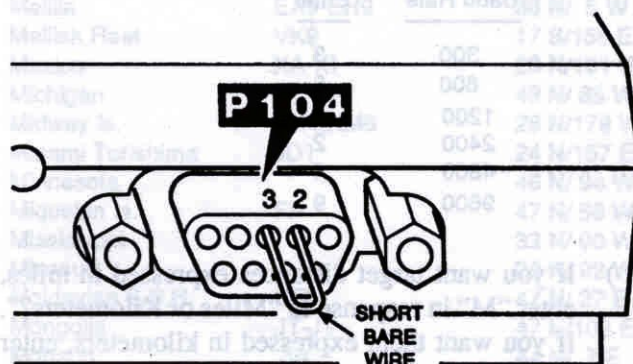

Figure 5
- () Temporarily insert a short bare wire between socket P104 pins 2 and 3. See Figure 5.